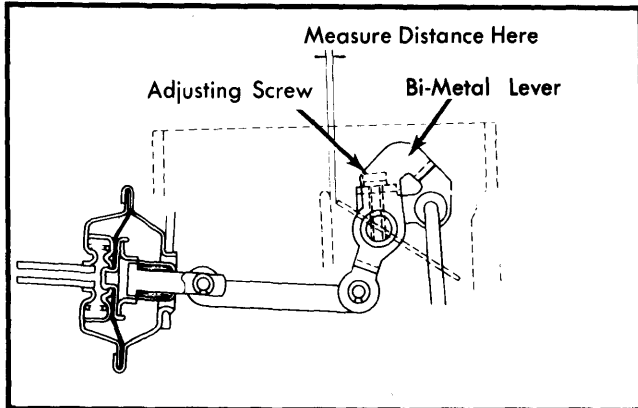

Fig. 4 Vacuum Break Adjustment for LUV Models
**LUV** — Fully depress vacuum break diaphragm stem and measure distance between choke plate and air horn wall. Adjust gap to .11-.29" (2.7-3.5 mm) by bending vacuum break rod. See Fig. 4.